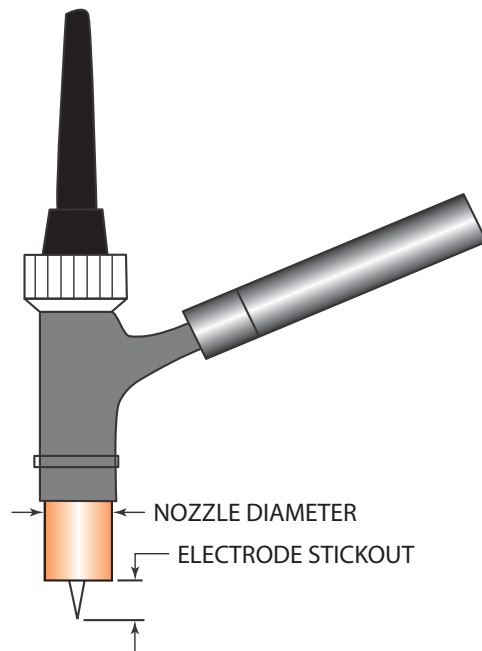

FIGURE 15-44 Electrode stickout. © Cengage Learning 2012
13. Select and install the desired nozzle size, Figure 15-43. Adjust the tungsten length so that it does not stick out more than the diameter of the nozzle, Figure 15-44.